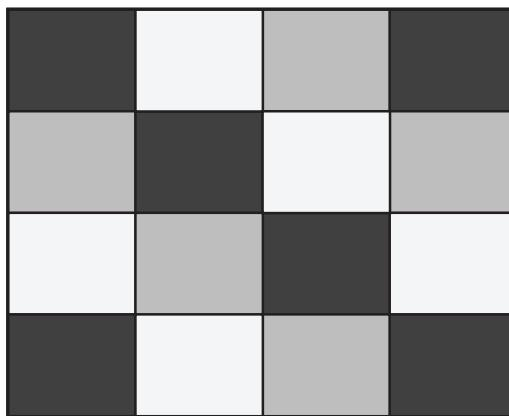

Figure 4-2. Display Test Pattern
6. Press **F3** (CALIBRATE). The Test Tool shows a dark display. The test pattern shown in Figure 4-2 may be not visible or hardly visible.
The Test Tool shows the display test pattern at default contrast, see Figure 4-2.
The Test Tool shows a light display. The test pattern shown in Figure 4-2 may not be visible or hardly visible.